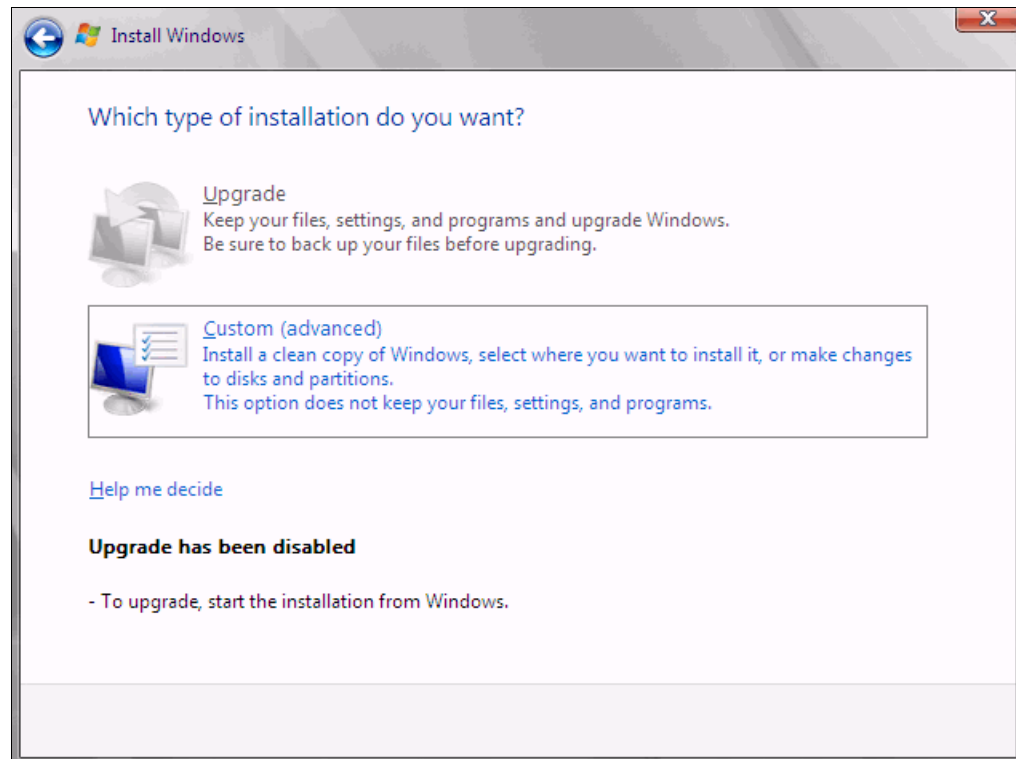

Figure 9-131 Selecting to install a clean copy of Windows
11. In the installation type panel (Figure 9-131), select **Custom (advanced)** to install a clean copy of Windows.